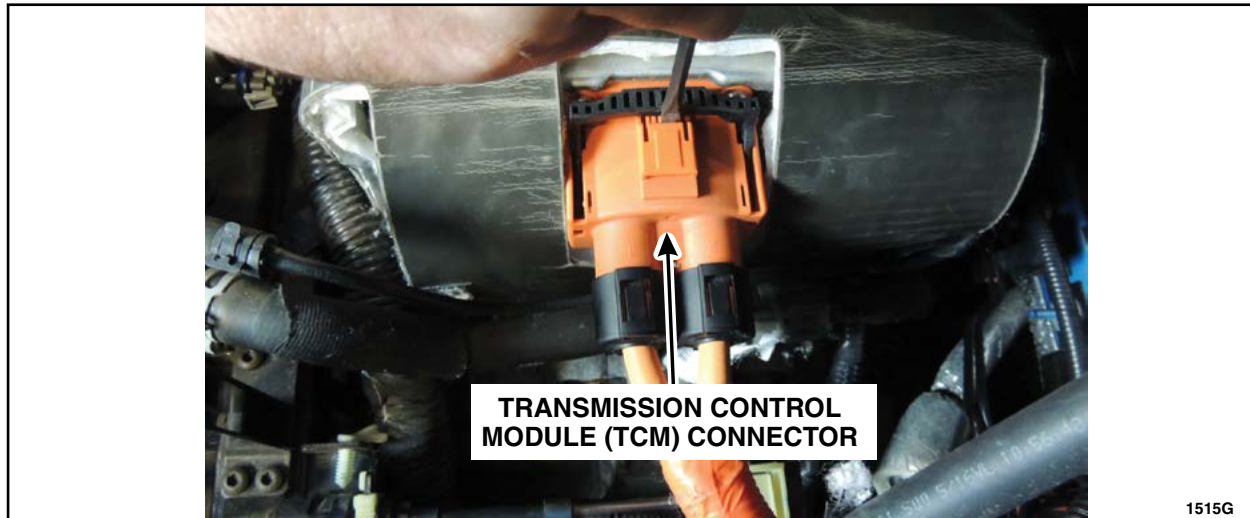

FIGURE 2
2. Disconnect the Transmission Control Module (TCM) connector. See Figure 2.
11. Connect and disconnect the TCM connector. See Figure 2.
13. Reconnect the TCM connector. See Figure 2.